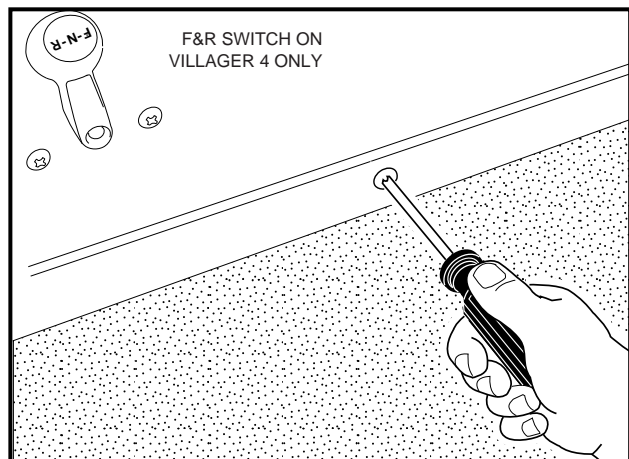

Figure 4-8 Kick-Plate Screws
5. Remove two screws, washers and nuts located at the bottom edge of the seat support panel (in kick-plate just above the floor mat) **(Figure 4-8, Page 4-7)**.
- 1.1. Tighten kick-plate nuts to 20 in-lb (2.3 N·m) while holding the kick-plate screws (**Figure 4-8, Page 4-7**).